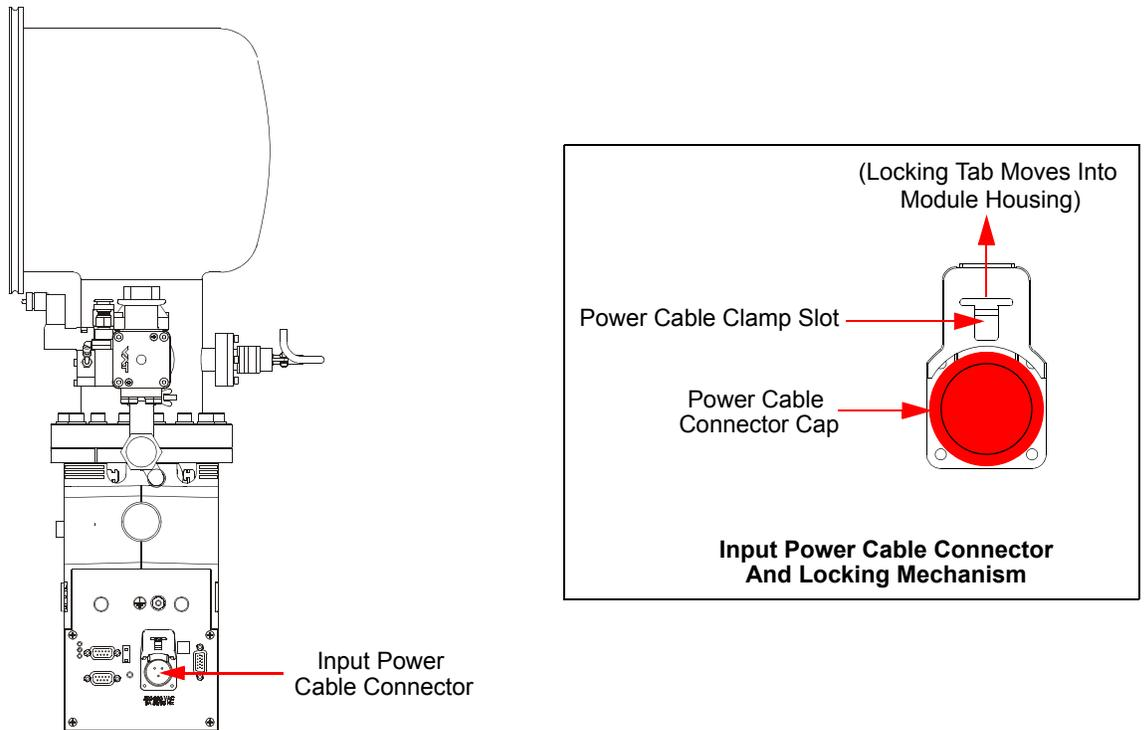

Figure 3-6: Input Power Cable Connection Point for the Module Power Connector
1. Insert a flat blade screwdriver into the power cable clamp slot on the Module as shown in Figure 3-6 on page 3-10.
2. Move the screwdriver away from the power cable connector cap in Figure 3-6.